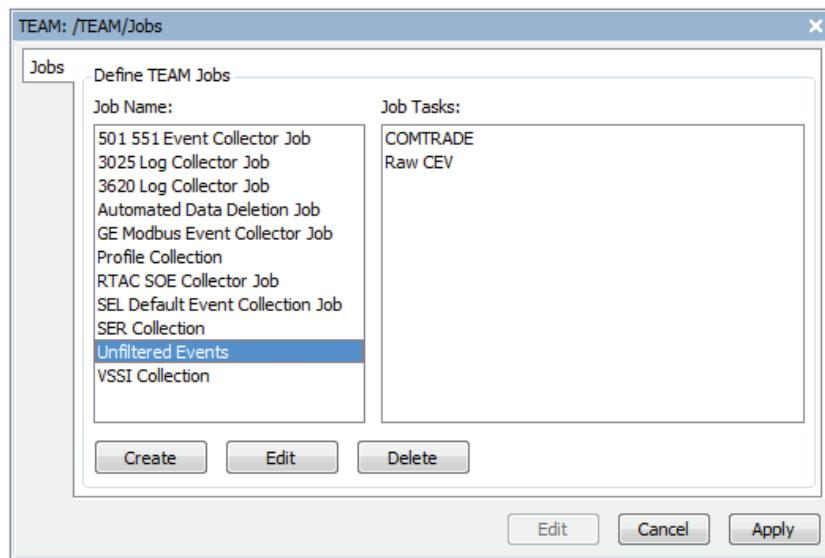

Figure 88 Define TEAM Job With TEAM Task
- Step 6. Confirm that the previous tasks were successfully assigned to the Unfiltered Events job by selecting **Unfiltered Events** and observing that COMTRADE and Raw CEV appear in the **Job Tasks** column as shown in *Figure 88*. Select the **Save All** (icon) in the toolbar.